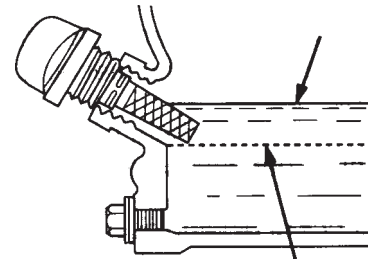

Figure 10. Engine Oil Dipstick (Oil Level)
4. If the oil level is low (Figure 10), fill to the edge of the oil filler hole with the recommended oil type (Table 7). Maximum oil capacity is 2.33 qts. (1.09 liters)